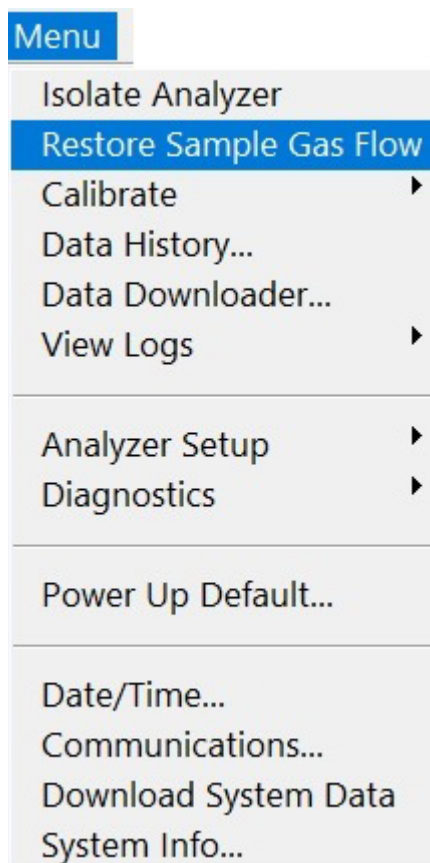

Figure 13: Starting Gas Flow
15. If analyzer has valves option, establish sample gas flow by pressing the menu key and selecting **Restore Sample Gas Flow** as shown in **Figure 13**.
6. Restore flow by selecting **Restore Gas Flow** from the Main Menu (**Figure 13**).